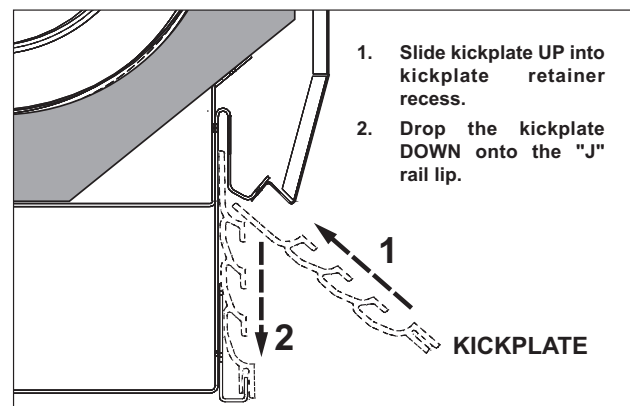

Fig. 10 Kickplate installation
- Insert top of kickplate into the kickplate retainer. Slide the kickplate up into the retainer, then down onto the "J" rail (Fig. 10). Be certain that the bottom of the kickplate is fitted over extruding "lip" of the "J" rail.